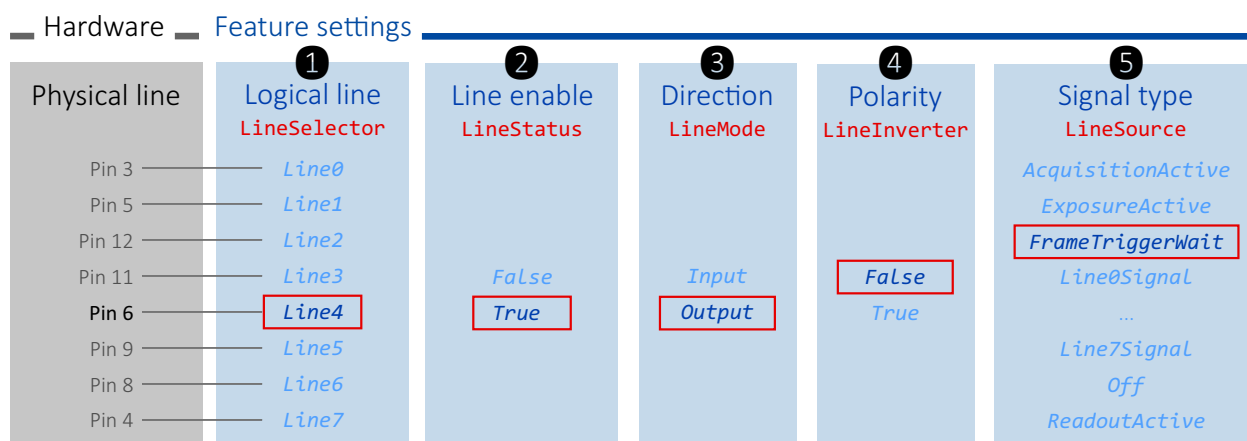

Figure 23: Example > Feature settings for Line4
Figure 23 shows an example where Line4 ① is enabled ② to output ③ a signal when the camera is ready to receive triggers ⑤, the signal level is not inverted ④: